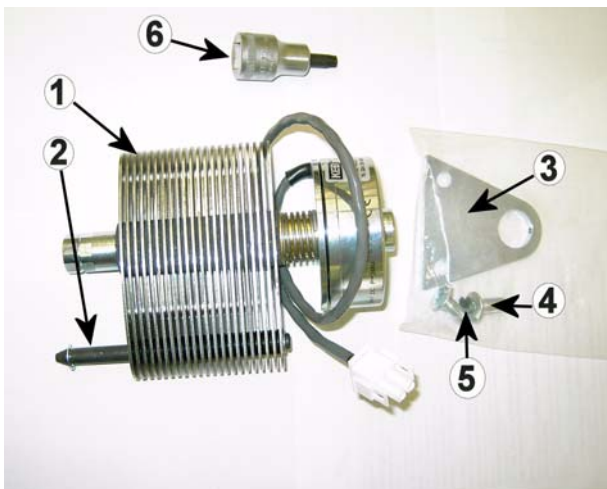
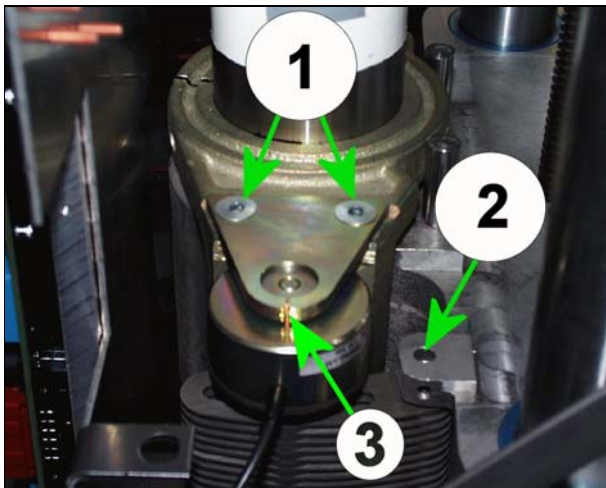

Fig. 1
Fig. 2
1 / Fig. 1 = swivel brake
2 / Fig. 1 = bolt
3 / Fig. 1 = mounting bracket above
4 / Fig. 1 = countersunk head screws for upper mounting bracket
5 / Fig. 1 = grub screw for mounting upper bracket
6 / Fig. 1 = TORX screwdriver insert
- Move the vertical lifting column up until the two screws 1/ Fig. 2 and the bolt 2/ Fig. 2 are accessible.
- Unscrew the bolt 2/ Fig. 2 completely. This is fastened by means of grub screws or locking ring depending on the production period.
- Loosen the two countersunk head screws 1/ Fig. 2 of the upper mounting bracket.
In the older version of the swivel brake (gold colored), the countersunk head screws 1/ Fig. 2 are secured with high-strength LOCTITE against loosening.
Do not remove the bolt 2/ Fig.2 from the new brake to start with!
- Remove the lower locking ring from the bolt 2 / Fig. 1.
- Set the new upper mounting bracket (see 3 / Fig. 1) on the holder and swivel brake and fasten it with the enclosed new countersunk head screws (see 1/ Fig. 2). Secure the countersunk head screws with Loctite 243.